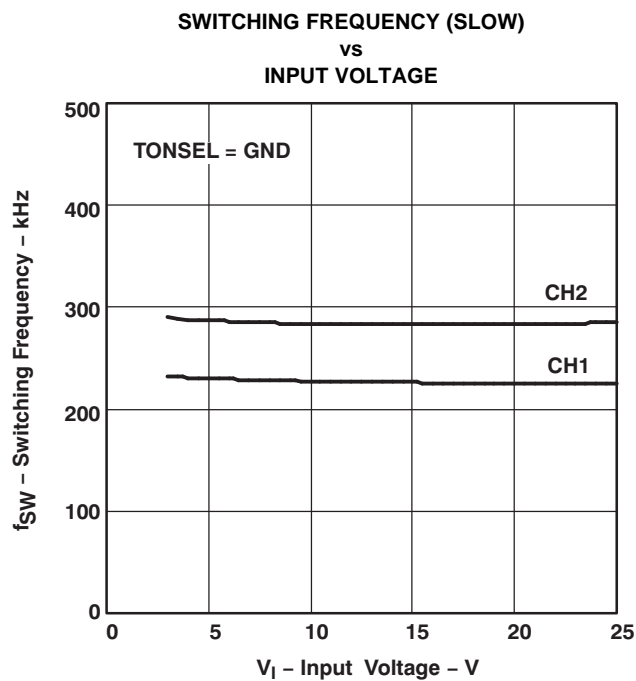
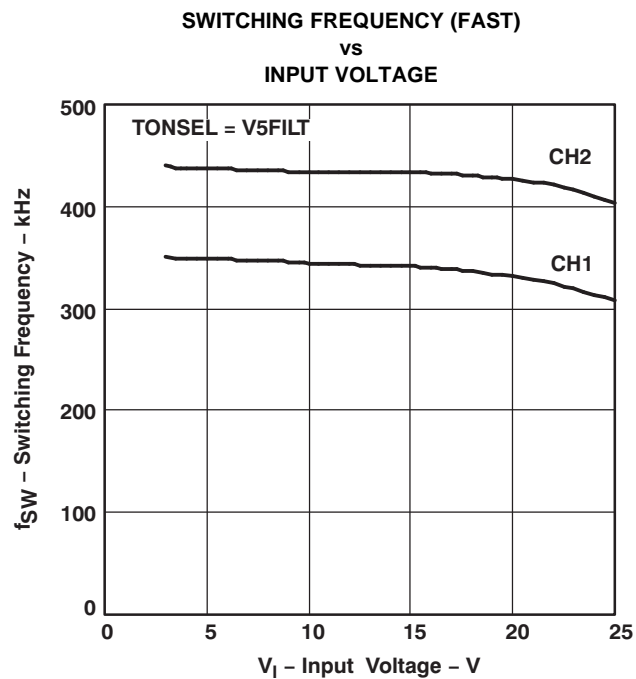

Figure 6. (1)
Figure 8.
(1) The data of Figure 6–Figure 8 are measured from the Typical Application Circuit of Figure 25 and Table 2.